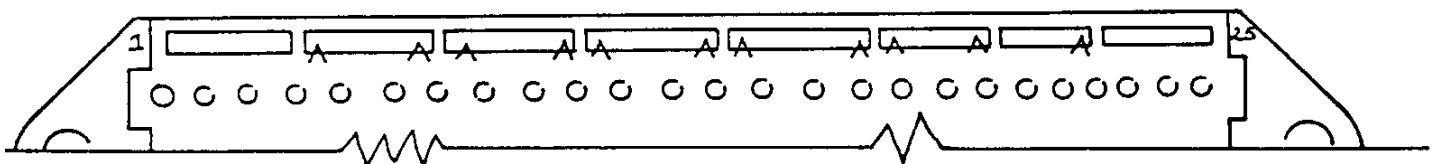

Figure 5.15- Rear View of Alignment Housing A
1. Drill size #44  $3/32"$  11 places and label as shown in Figure 5.16. Notch as shown in Figure 5.15